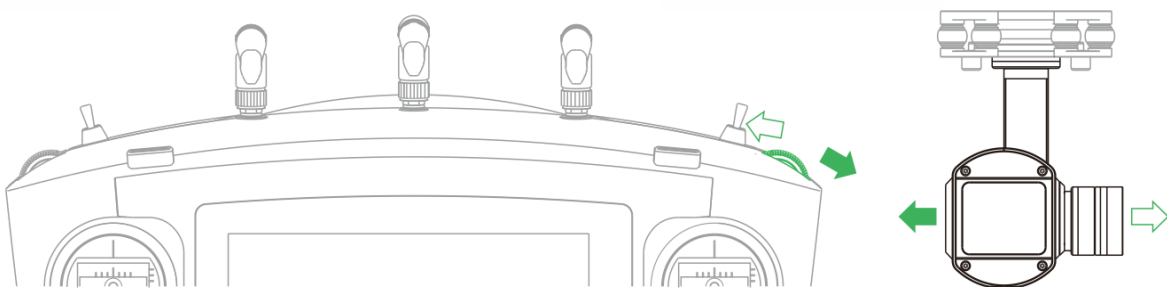

Figure 2-15
- PTZ flight pulley wheel. It is to control the camera horizontal shoot angle. See Figure 2-15.